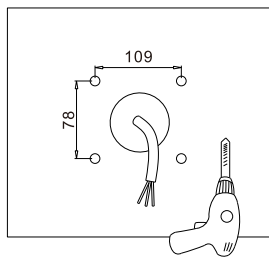

Figure 1-1
1.Cut holes on the wall according to locating plate.(Figure 1-1)